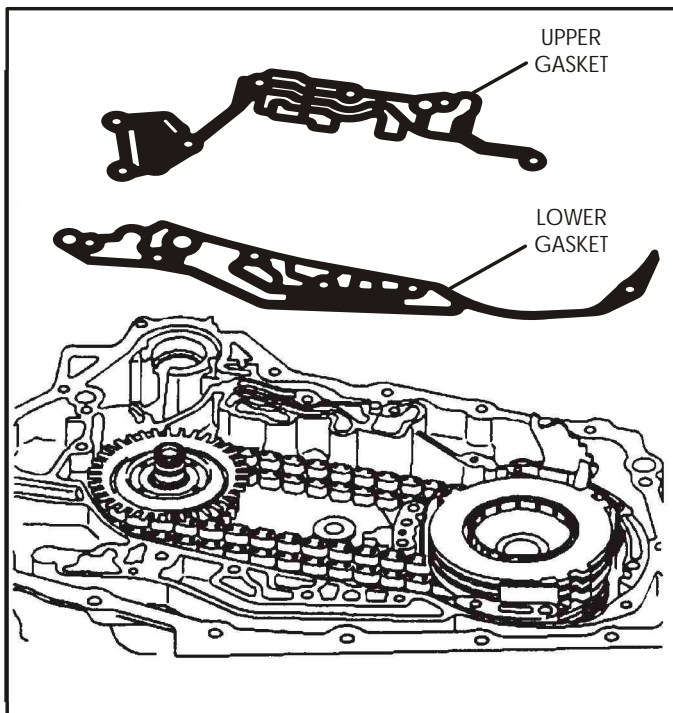

Figure 176
83. Install the case cover to case gaskets onto the case, as shown in Figure 176.